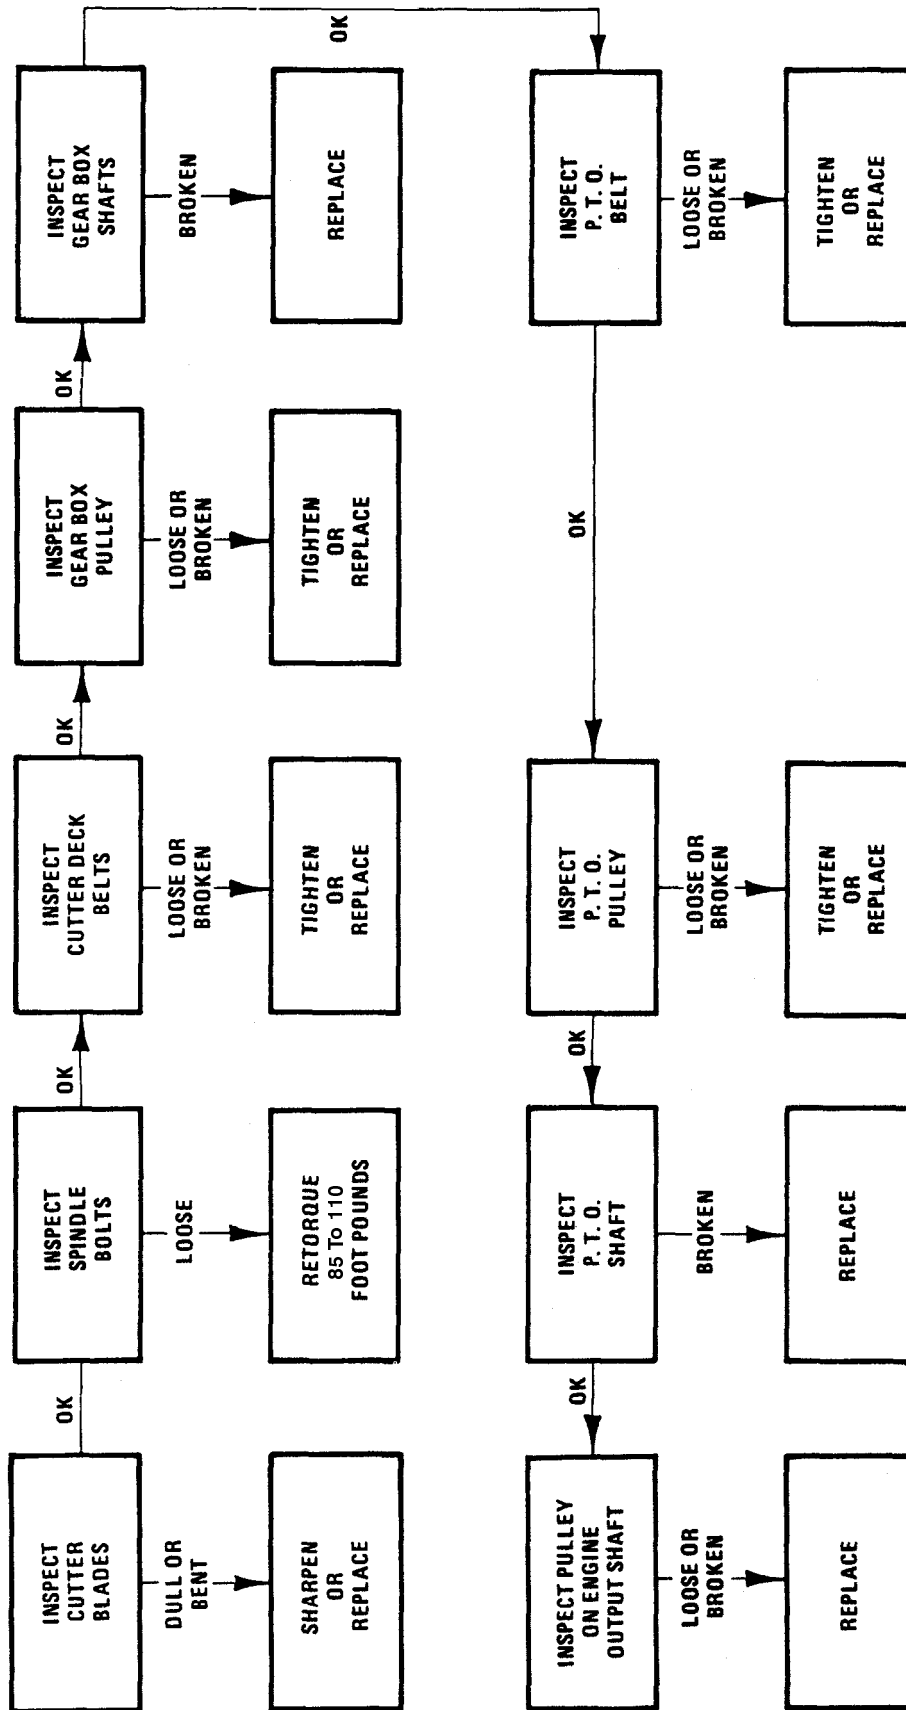

Figure 27
2. Position machine and cutting unit on a level surface and lower cutting unit. Remove fill/check plug from side of gear box (Fig. 27) and make sure lubricant is up to bottom of hole. If level of lubricant is low, add SAE 80–90 wt. gear lube until level is up to bottom of hole.